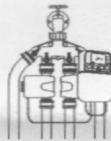

Figure 3
6. Attach up to 4 valves as needed to the 4-outlet brass manifold. (See Figure 3)